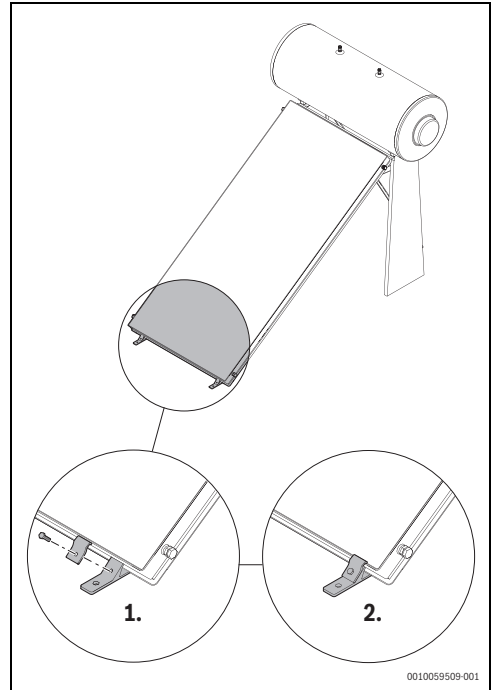

Fig. 15
- Position the collector support feet at each edge of the collector and tighten the bolts to secure the brackets together (see fig. 15).